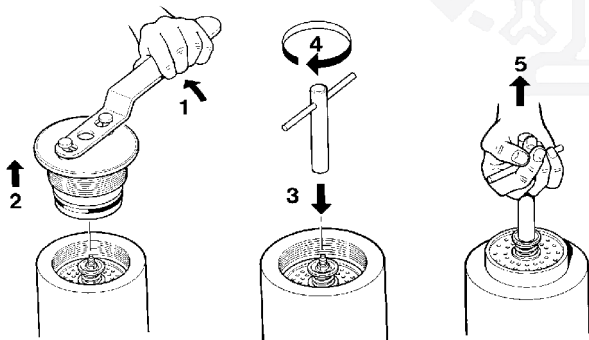

Fig. 10 Cartridge change P120 - P140
- Pull out used cartridge by means of its clip (3) and replace with a new cartridge.
- Remove filter head with special spanner supplied with the unit (1, 2, Fig. 10).
- Screw cartridge removal tool supplied with the unit (3, 4) onto cartridge and pull out cartridge (5).